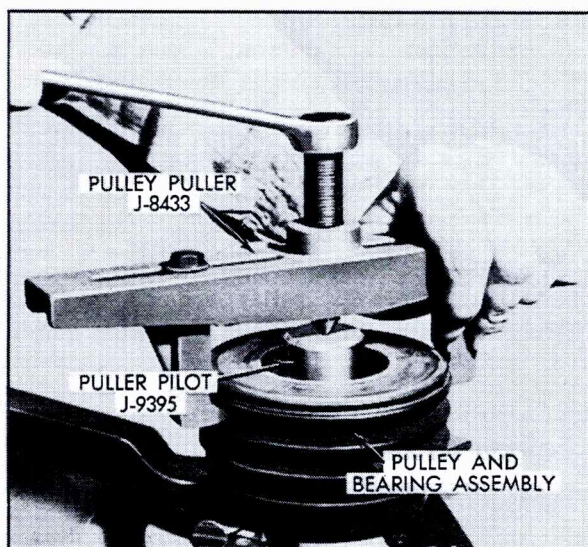

Fig. 1-43 Removing Pulley and Bearing Assembly
5. Remove pulley and bearing assembly using Pulley Puller, J-8433, Fig. 1-43.